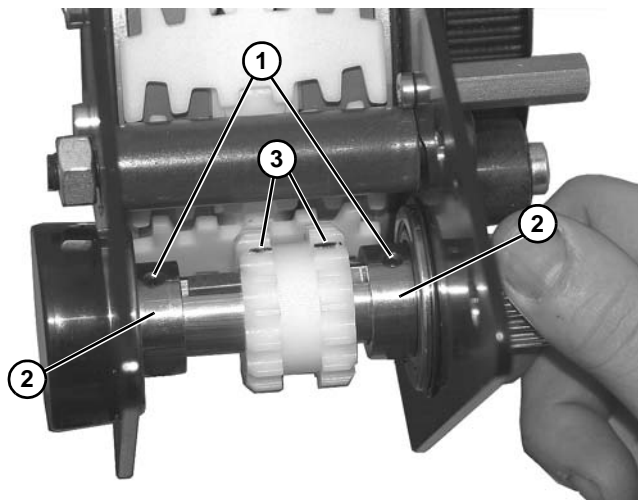

Figure 169
14. Loosen two set screws (**Figure 169, item 1**) on two bearings (**Figure 169, item 2**).
15. Loosen sprocket set screws (**Figure 169, item 3**).